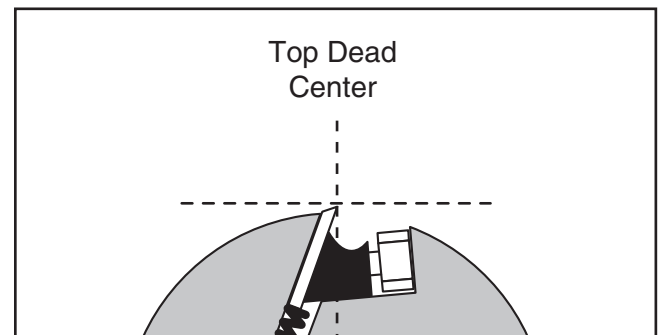

Figure 10. Cutterhead knife at top dead center.
2. Rotate the cutterhead pulley until one of the knives is at top dead center, as illustrated in **Figure 10**.